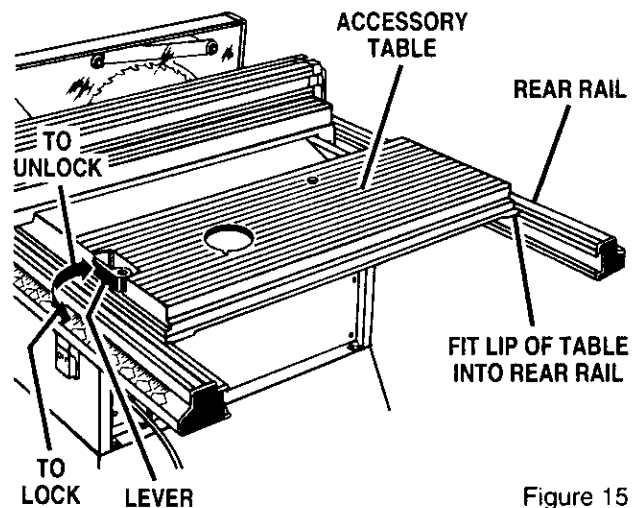

Figure 15
- Place the accessory table on the front and rear rails, fitting the lip into the rear rail. Position the slot on the underside of the accessory table onto the front rail and tighten the lever securely. See Figure 15.